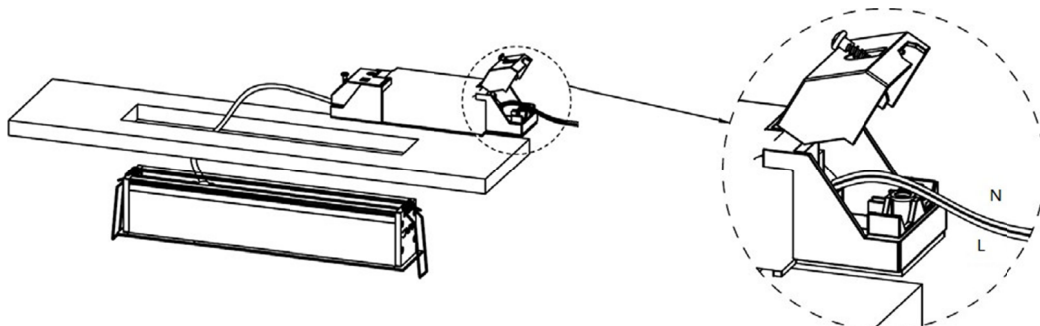

Figure 2
2. Open the junction box cover and insert the positive and negative terminals of the mains power into the L and N terminals of the wiring terminal. Insert the dimming control wire into the "+" and "-" holes of the wiring terminal. After wiring is completed, replace the junction box cover (as shown in Figure 2);